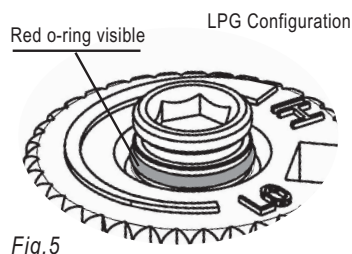

Fig. 5
18) Verify that if the conversion is from NG to LPG, the screw must be re-assembled with the red o-ring visible (Fig. 5).